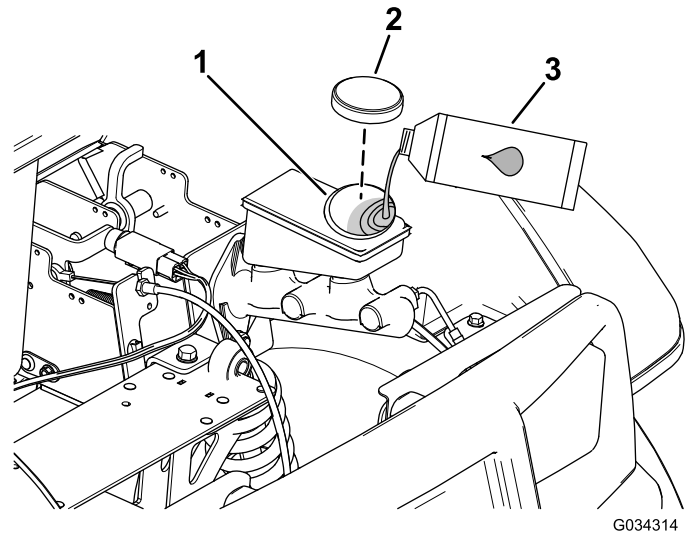

Figure 48
2. Raise the hood to gain access to the master-brake cylinder and reservoir (Figure 48).
- A. Clean the area around the reservoir cap and remove the cap (Figure 48).
- C. Install the reservoir cap (Figure 48).